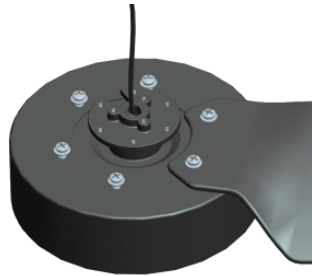

Fig 2.1
2.1 Remove 6 blade screws from the motor housing. Secure each blade to the motor hub using the screws as shown in Fig 2.1.